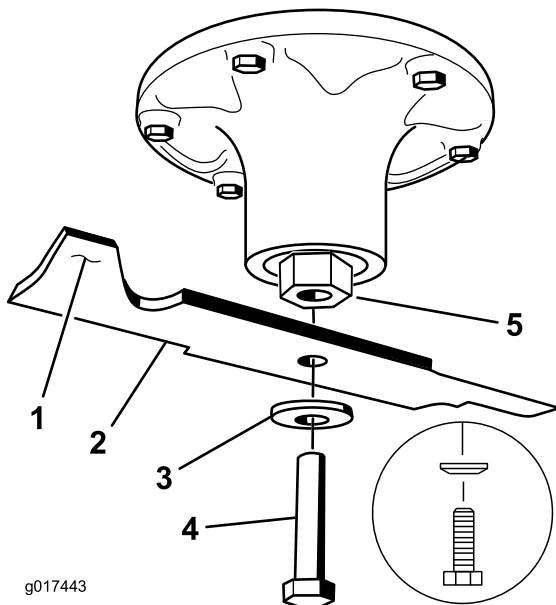

Figure 81
2. Remove the blade bolt, curved washer, and blade from the spindle shaft (Figure 81).
- Install the blade onto the spindle shaft (Figure 81).
- Install the curved washer and blade bolt (Figure 81).